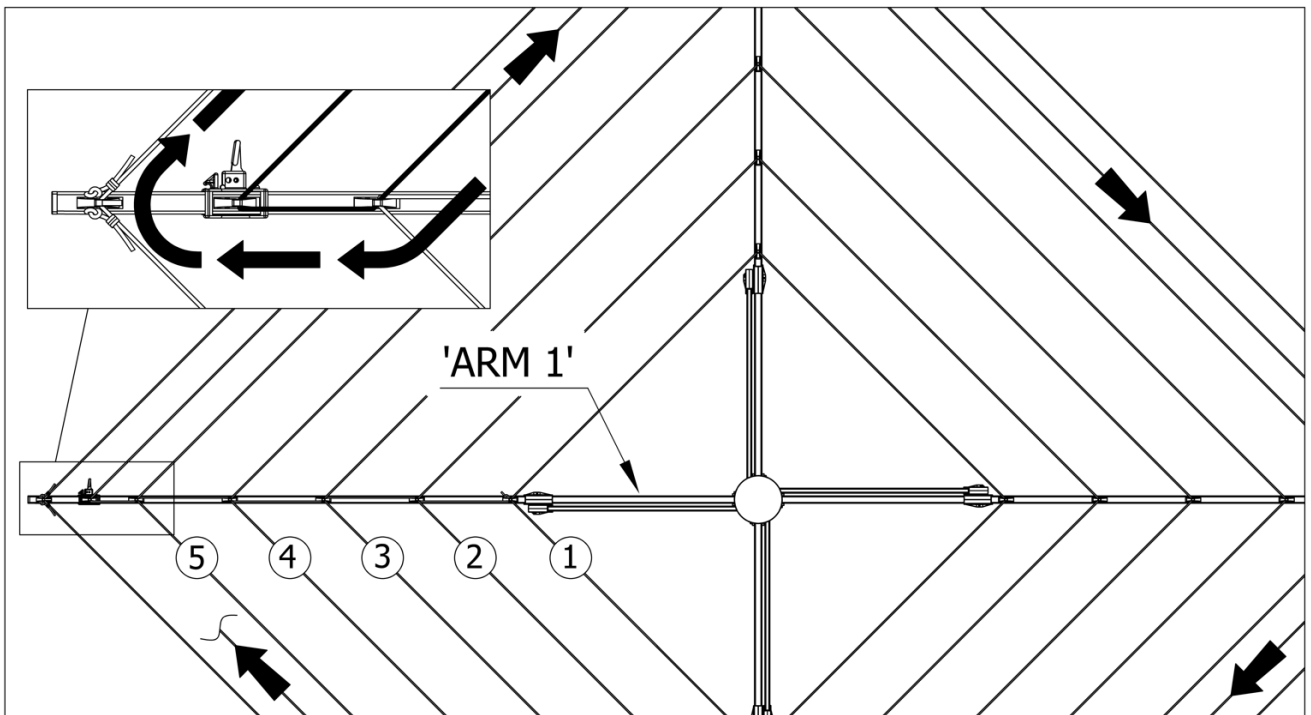

Fig 12. Cording sixth line. (Viewed from above)
1. Pull the cord back into the fifth clip and then run the cord parallel to the arm up to the clip that is over the Line Tension Lock. (Fig. 12)
2. Cord line 6 in a clockwise direction. (Fig. 12)